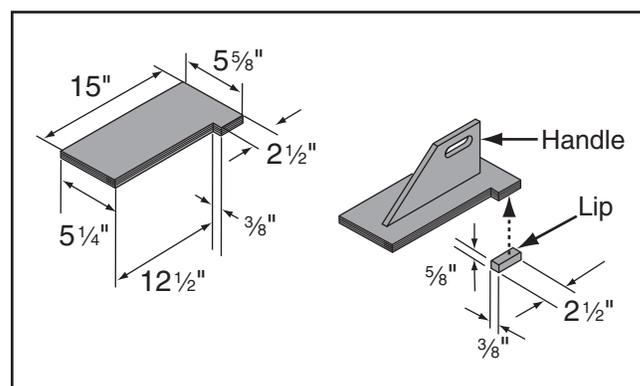

Figure 93. Push block dimensions and construction.
3. Using the $\frac{1}{2}$ " material you used in the previous steps, cut out pieces for the push block per the dimensions shown in **Figure 93**; for the handle, cut a piece 10" long by 5"–9" high and shape it as desired to fit your hand.